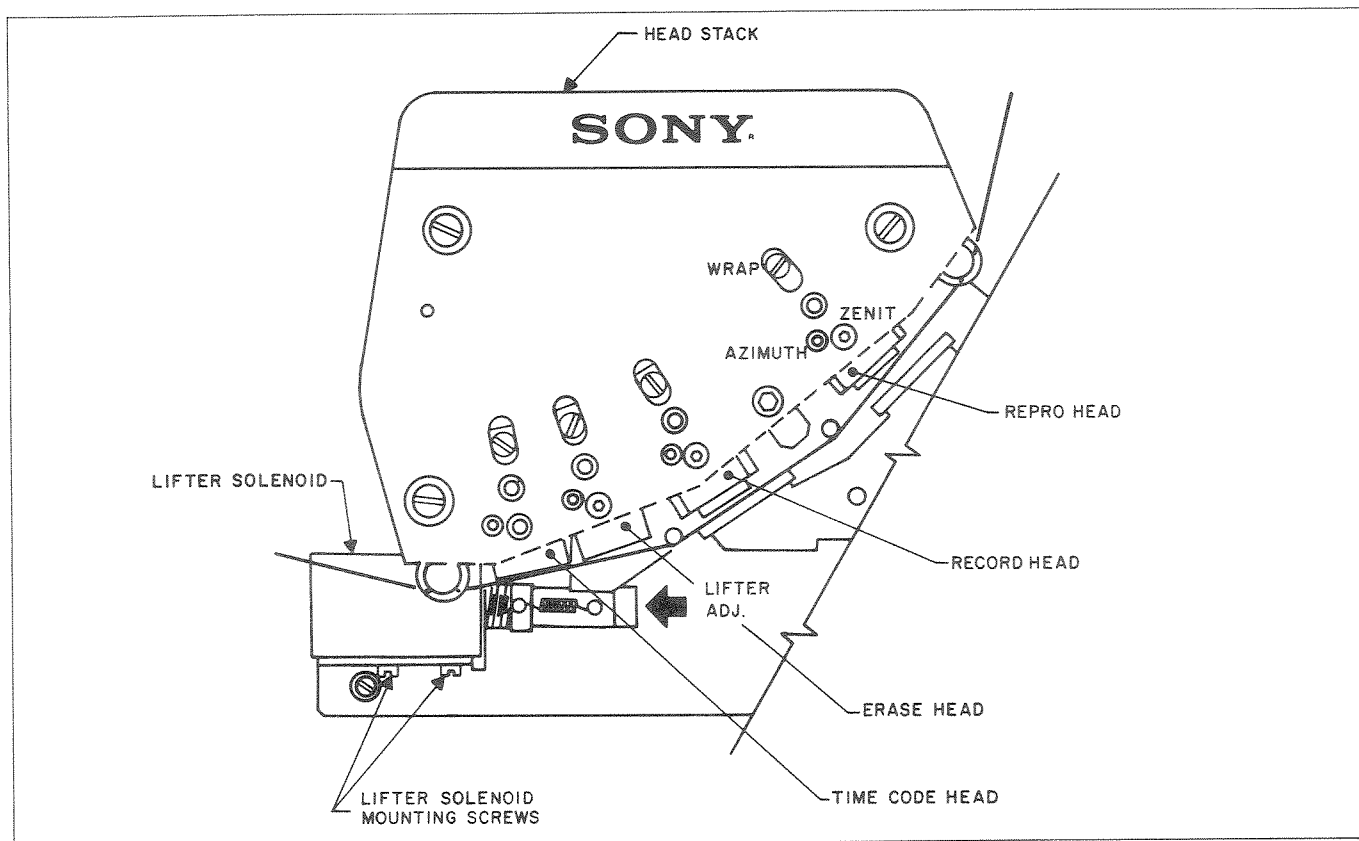

Figure 4-2. Tape Lifter Adjustment
- STEP 5** Loosen the tape lifter solenoid mounting screws (Figure 4-2.) and position the solenoid so that the tape is in contact with the Time Code head, but not touching the erase, record or repro heads.